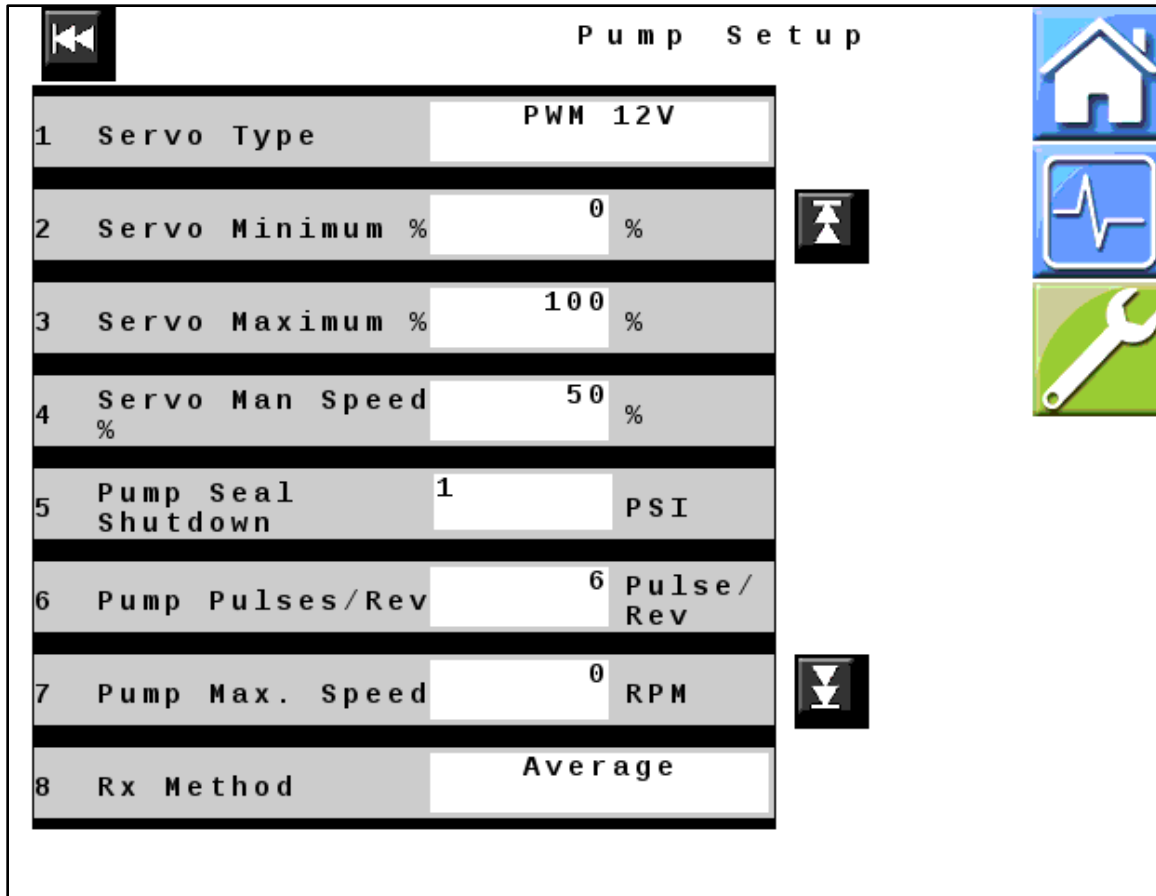

Figure 14 — Pump Setup Page 1
27. *Figure 14:* Verify that all values displayed on your unit match those shown here. Change values if necessary.